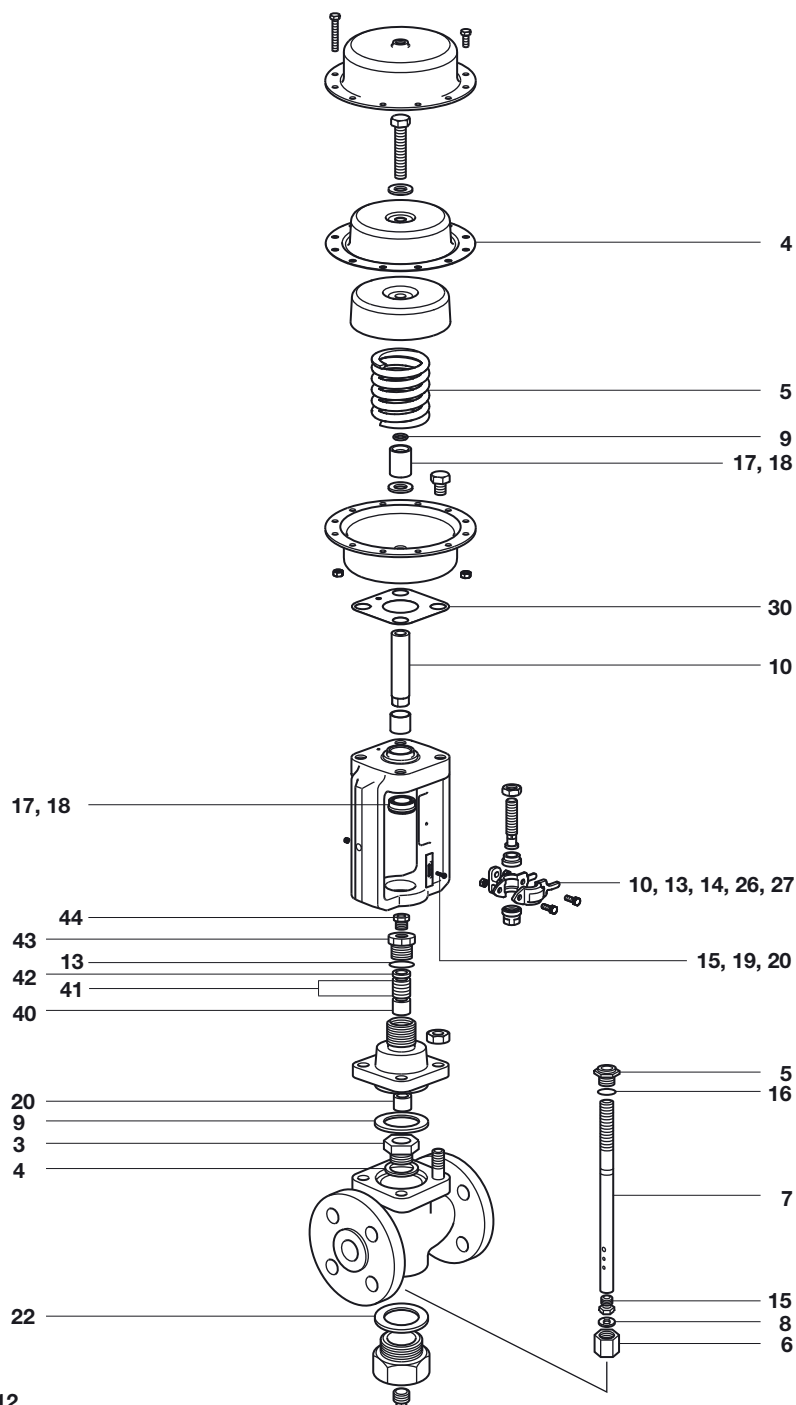

Fig. 12
- Fit the bottom support ring (40, see Figure 12) over the valve stem and locate in the valve bonnet with its small diameter downwards.
- Fit the stuffing box gasket (13) to the stuffing box (43), and pass the stuffing box assembly over the valve stem (7).
- Ensure the gland nut (44) is finger tight against the top support ring (42), then move the valve stem up and down over its full travel five or six times to bed in the packing rings.
- Fit the top support ring (42), chamfer first, into the stuffing box (43). (See Figure 12).
- Fit the five packing rings (41) into the stuffing box from below, so the thread in the top of the stuffing box cannot damage the rings. Ensure that the splits in the packing rings are staggered.